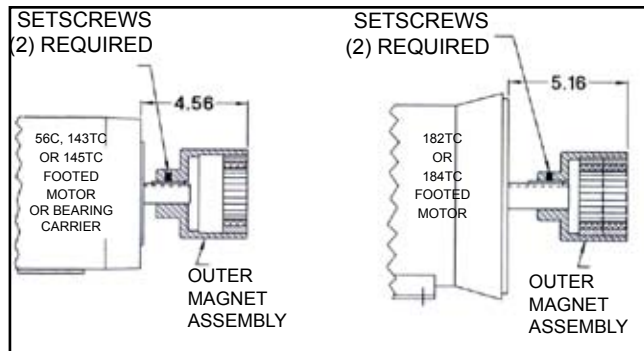
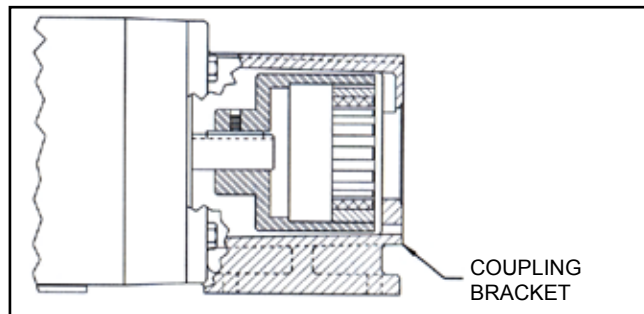

FIGURE 27
FIGURE 28
1. Inspect the magnets for any steel objects, which may be attached. Remove any foreign material. Apply Loctite and tighten the setscrews onto the motor or bearing carrier key and shaft. Locate outer magnet assembly on the motor shaft per dimension. See Figure 27.
2. Mount the coupling bracket to the motor (or bearing carrier) and secure with the 4 capscrews. See Figure 28. Reach in and rotate the magnets by hand to make sure there is no interference. If rubbing occurs check dimension in Figure 27 or contact the factory.